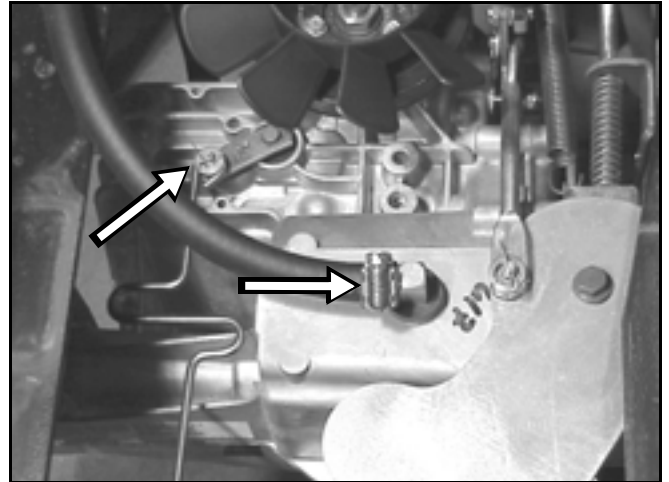

Figure 118
3. Disconnect the free wheeling valve I rod and the vent hose clamp (Figure 118).